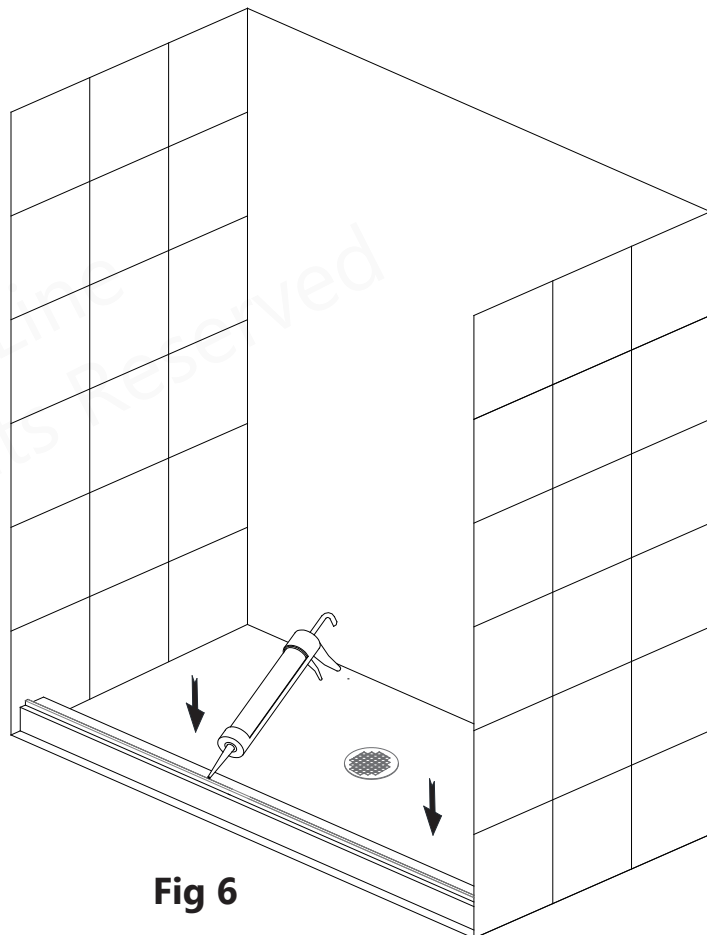

Fig 6
6. Run a bead of Silicone along the inside edge of **Bottom Rail (#08)**. **(Fig 6)**